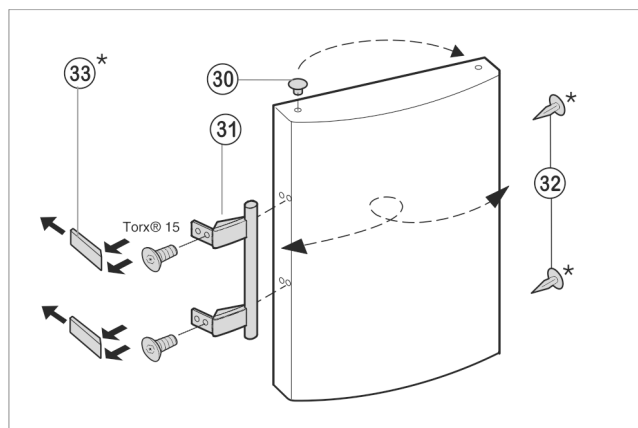

Fig. 8
- ▶ Lift the stopper Fig. 8 (30) out of the door bearing bush and transfer it.
- ▶ Detach door handle Fig. 8 (31), stoppers Fig. 8 (32) and pressure plates Fig. 8 (33) plates and transfer to the opposite side